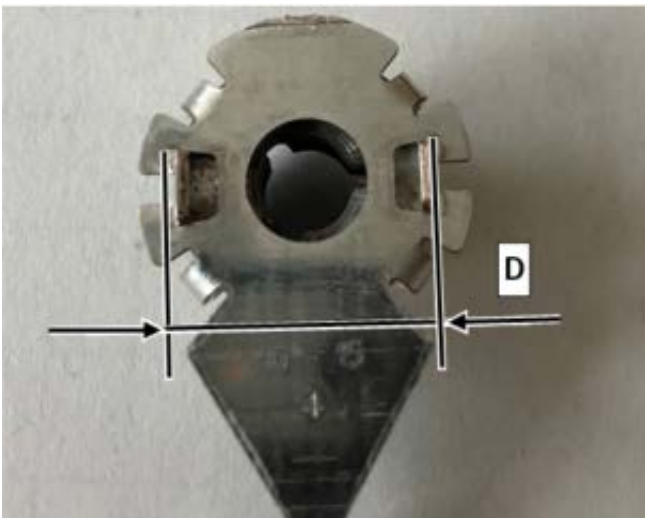

Figure 4
10. Measure outside dimension between anti-twist protection lugs (**D, figure 4**).
i Outside dimension between anti-twist protection lugs (**D, figure 4**) **min. 13.6 mm**.
- a. Anti-twist protection (**C, figure 3**) **straight** or **bent outwards**, i.e. outside dimension between anti-twist protection lugs (**D, figure 4**) **equal to or greater than 13.6 mm**: Perform operation step 11, then **end measure**.
- b. Anti-twist protection (**C, figure 3**) **bent inwards**, i.e. outside dimension between anti-twist protection lugs (**D, figure 4**) **less than 13.6 mm**: Create **PTSS case**.
i Only if anti-twist protection of cable lug is **bent inwards** , i.e. outside dimension between anti-twist protection lugs (**D, figure 4**) is **less than 13.6 mm**.